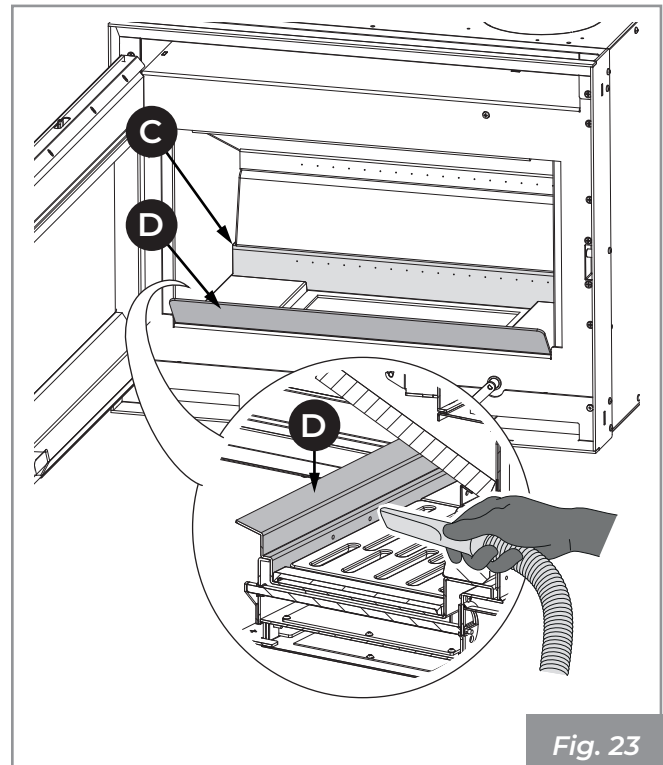

Fig. 23
- 2) Extract the ash drawer (B) from the base and vacuum out any ash deposited in the compartments below (Fig. 23).
- 3) Vacuum the rear (C) and front holes (D - if any) of the combustion air distributor in order to prevent ash from accumulating (Fig. 23).